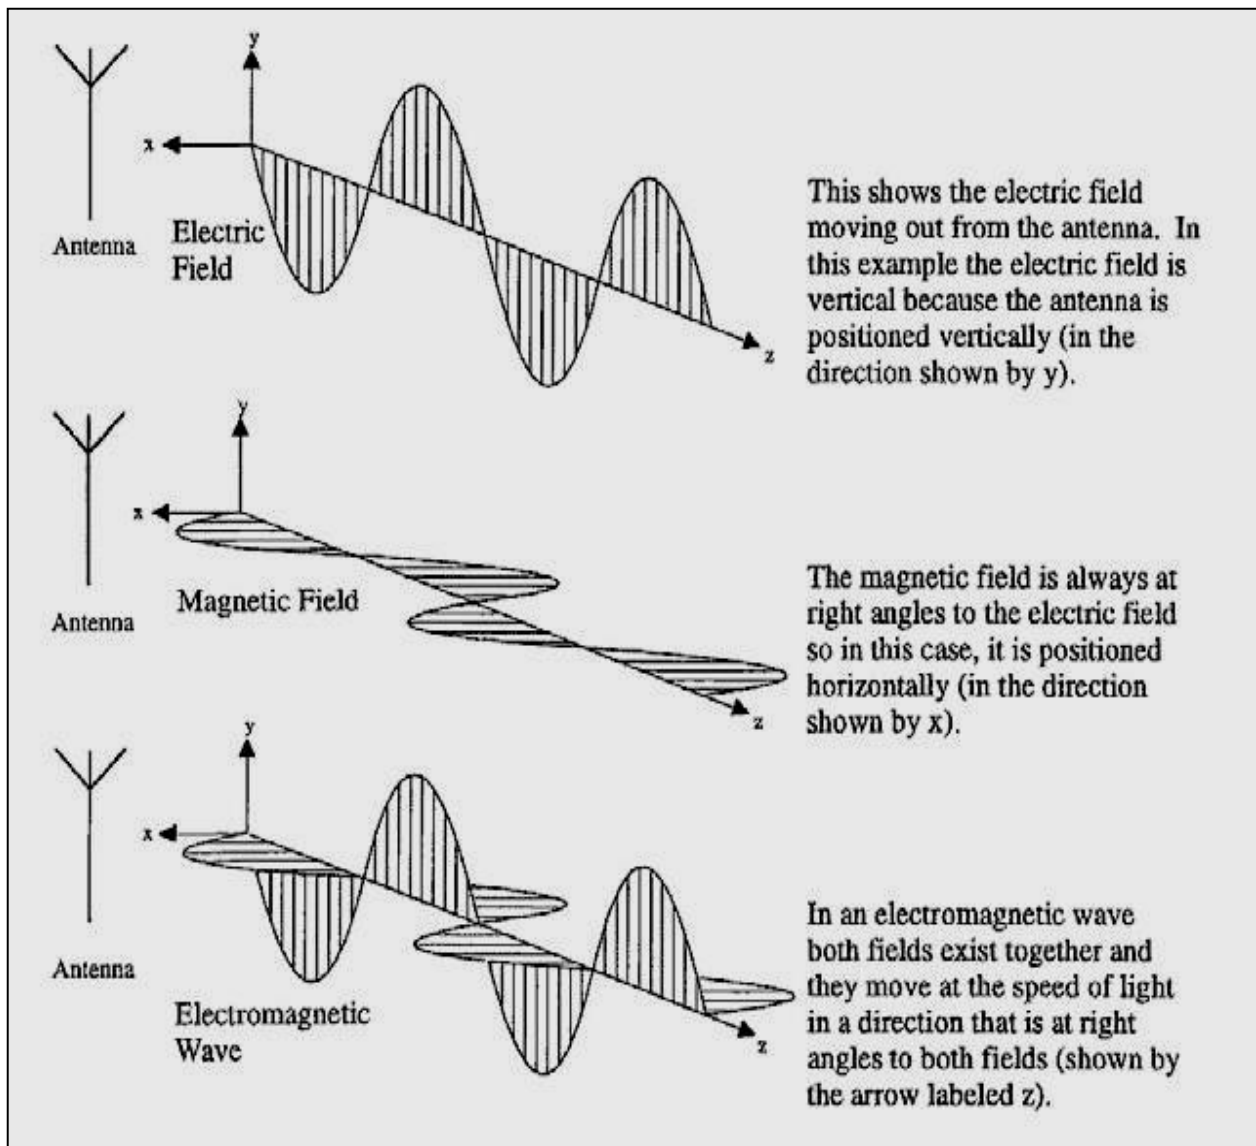

Fig.3.4: An Electromagnetic wave
An electromagnetic wave, such as a light ray, consists of two fields, an electric field and a magnetic field. These two fields are always at right angles to each other and move in a direction which is at right angles to both the magnetic and the electric fields; this is shown in Figure 3.4. The antenna converts the power output of the Output Amplifier into an electromagnetic wave. How does it do this?
If the transmitting antenna is placed vertically, the electrical field is vertical and the magnetic field is horizontal (as seen in Figure 3.4). If the transmitting antenna is now moved by  $90^\circ$  to make it horizontal, the electrical field is horizontal and the magnetic field becomes vertical. By convention, we use the plane of the electric field to describe the orientation, or polarization, of the electromagnetic (EM) wave. A vertical transmitting antenna results in a vertically polarized wave, and a horizontal one would result in a horizontally polarized EM wave.